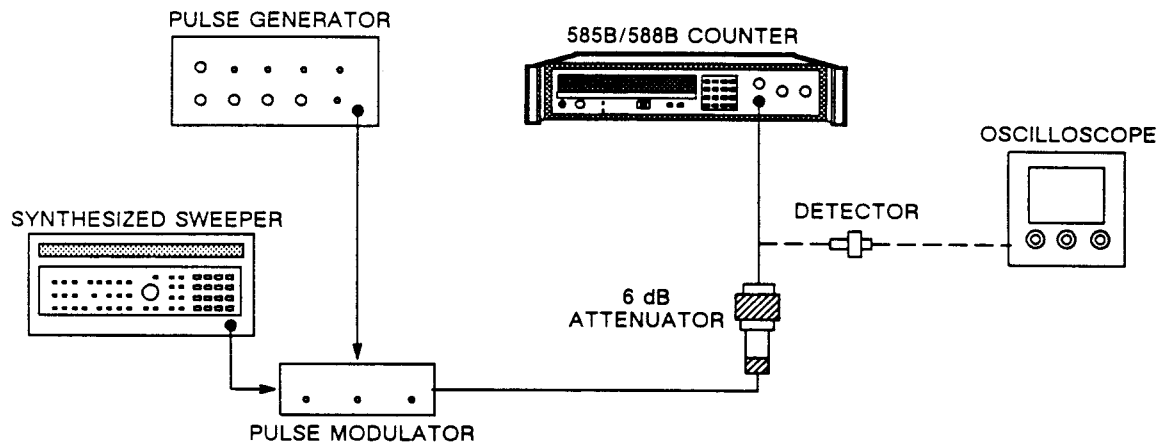

Figure 8-10. Band 1 Distortion Error Test Setup.
1. Connect equipment as shown in Figure 8-10. The 6 dB attenuator should be at the input of counter. Turn equipment on.